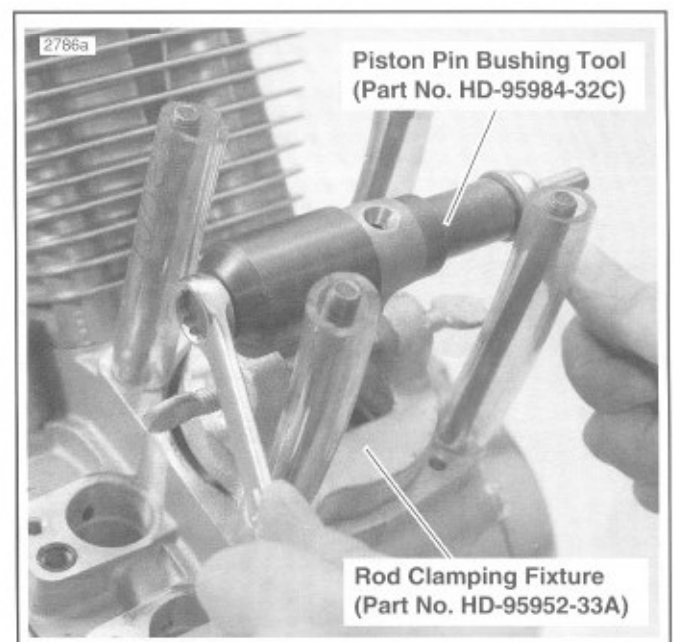

Figure 3-36. Installing New Piston Pin Bushing
1. See Figure 3-36. Install plastic hoses over studs.
7. See Figure 3-36. Attach the PISTON PIN BUSHING TOOL (Part No. HD-95984-32C) to the connecting rod; place the new bushing between the connecting rod and the driver.